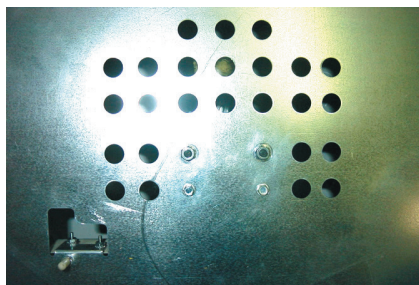

Figure 13 - Air Openings in Bottom of Heater
6. No wires should be seen through openings in bottom of heater (see Figure 13).